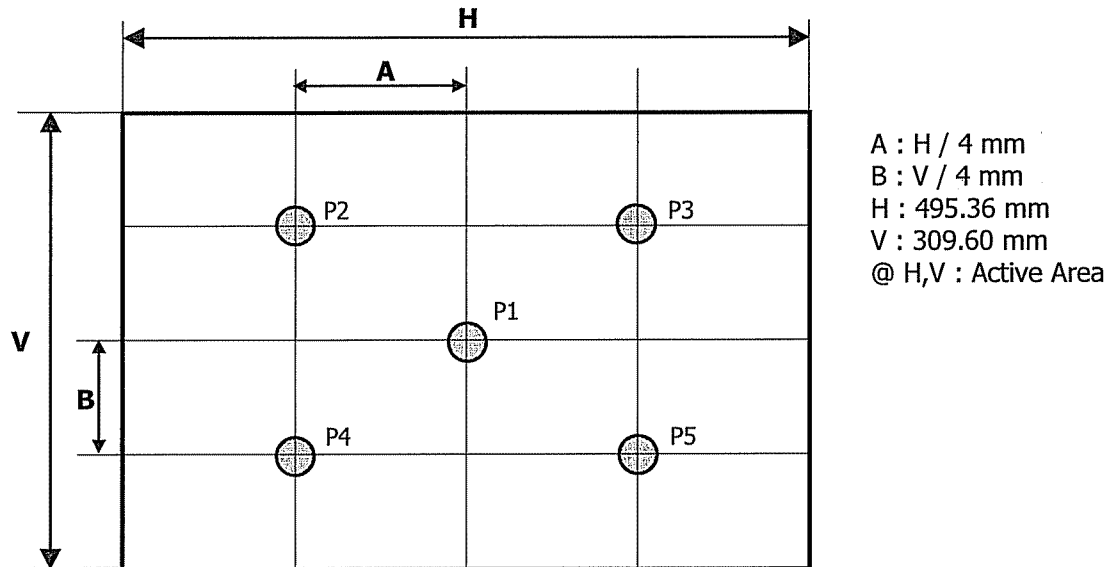

FIG. 2 Measure Point for Luminance
2. Surface luminance(L_{WH}) is luminance value at center point(P1) across the LCD surface 50cm from the surface with all pixels displaying white. For more information see FIG 2.
For more information see FIG 2.